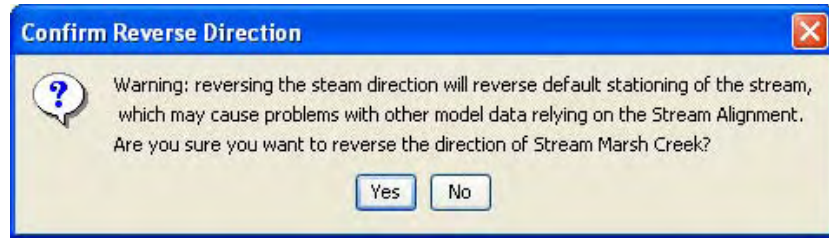

Figure 5.22 Confirm Reverse Direction of Stream Element
3. A warning message (Figure 5.22) will open asking you whether you really want to reverse the direction of the stream element.